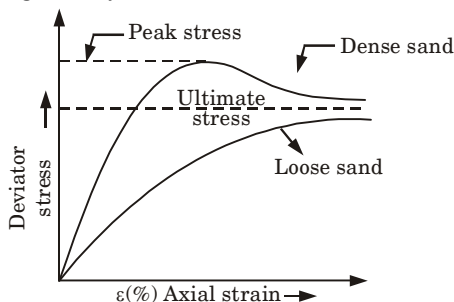

Fig. 4.21.1. Deviator stress vs. axial strain.
- ii. For dense sand (and over-consolidated clay), the deviator stress reaches a peak value and then it decreases and becomes almost constant, equal to the ultimate stress, at large strains as shown in Fig. 4.21.1.